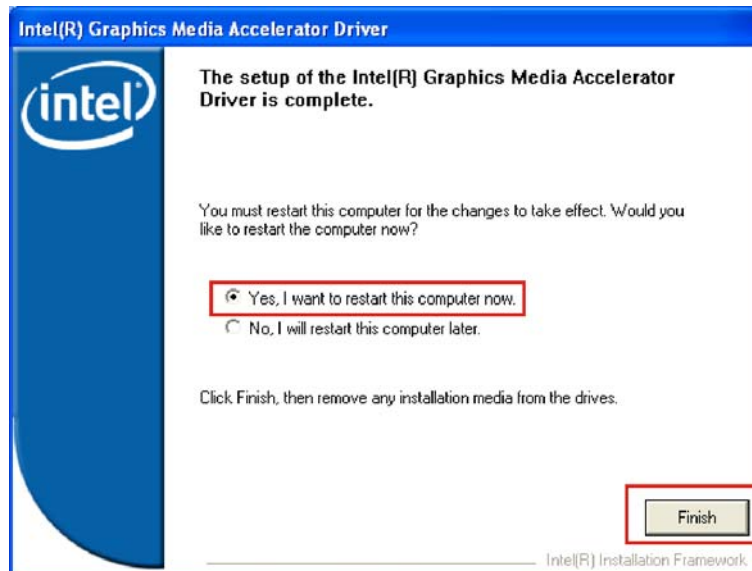

Figure 6-13: VGA Driver
Step 12: The **Graphics Installation Complete** window appears (Figure 6-13).